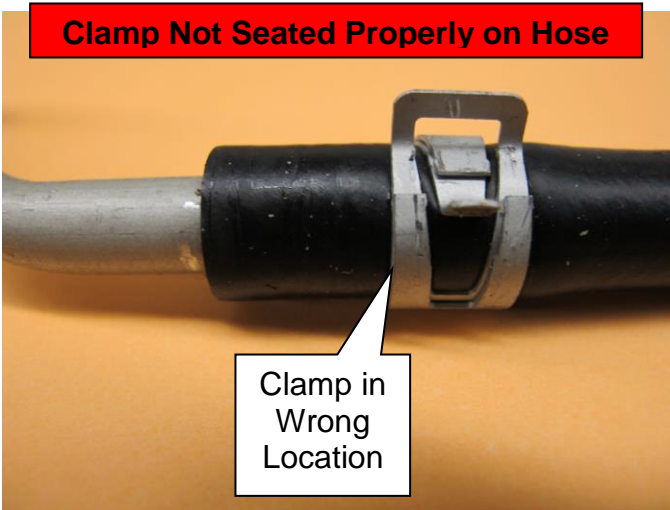

Figure 9
- Clamp not seated properly on hose (Too close to barb lip) (Figure 9).